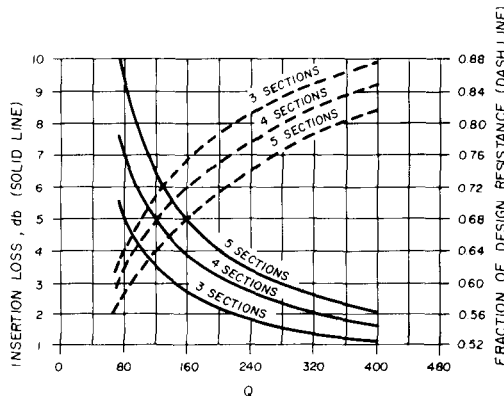
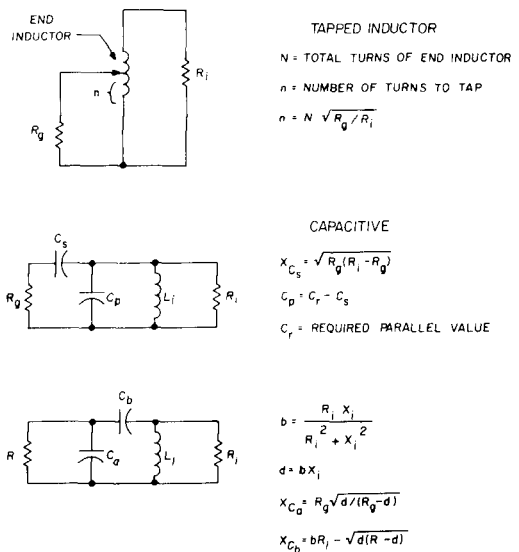

fig. 8. Ideal value insertion loss and end resistance for 3-, 4-, and 5-section, 1-dB Chebyshev bandpass filters.
fig. 9. Impedance matching methods for bandpass filters. Complete information on calculating component values is given in the text.
Fig. 8 shows the variation of input impedance and insertion loss for ideal values but with finite values of Q . This may be used as a general guide.
Fig. 9 shows three different matching methods. They apply to either end and assume matching to a pure resistance. Filter end resistance varies with section Q and is shown in fig. 8 as a fractional value of design
- R_i = Actual input resistance; obtain by multiplying design R by factor shown in fig. 8
Voltage gain is achieved when matching is only at the input; voltage loss occurs when matching is on the output. This is true for all three types. Gain or loss is equal to the square-root of R_i/R_g . Filter loss is still present and the curves of fig. 8 should be used for the overall gain or loss.
To illustrate this, assume the 3-section example already given with a $Q = 160$. From fig. 8, the loss of the filter alone is 2.6 dB and $R_i = 3.74k$ ($0.718 \times 5k$). The input R_g is 50 ohms so $R_i/R_g = 7.48$ with a voltage loss of $1/2.735$ or -8.74 dB. The net voltage gain is $18.74 - 2.6 - 8.74 = +7.4$ dB.
Take the 3-section example with $Q = 160$ and match to 50 ohms. R_i is found to be 3.74k from the fig. 8 curve and R_g will be 50 ohms. L_i is not the inductor value used but is modified by the coupling capacitance immediately adjacent, plus any distributed capacitance of the inductor. The latter can be discounted since a 2.2 μH inductor will have little distributed capacitance. A properly-adjusted filter will cancel all reactance at the center frequency since each coil will resonate with the combination of parallel capacitance and adjacent coupling capacitance. All of the matching component formulas take this into account.